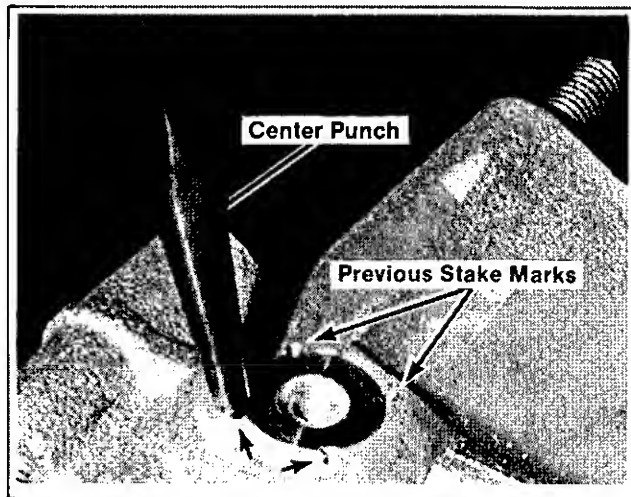

Figure 8-19. Restaking Camshaft Bore Plug.
8. Locate a center punch in the previous stake marks around the machined camshaft bore plug. Restake the plug securely in place. See Figure 8-19.